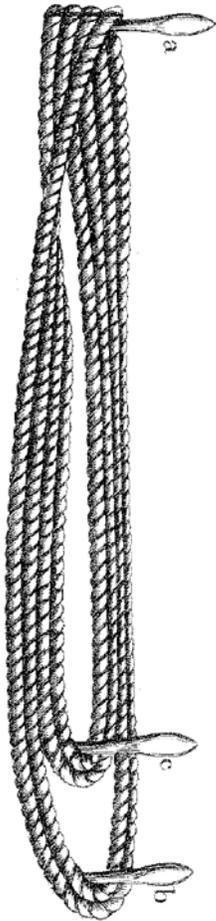

Fig. 164
p. 22 "**SHROUDS** sometimes are **cable-laid** ; but they are now generally **shroud or hawser-laid**. (See p. 2). They are taken round two fids, or short posts (a, c, Fig. 164)."